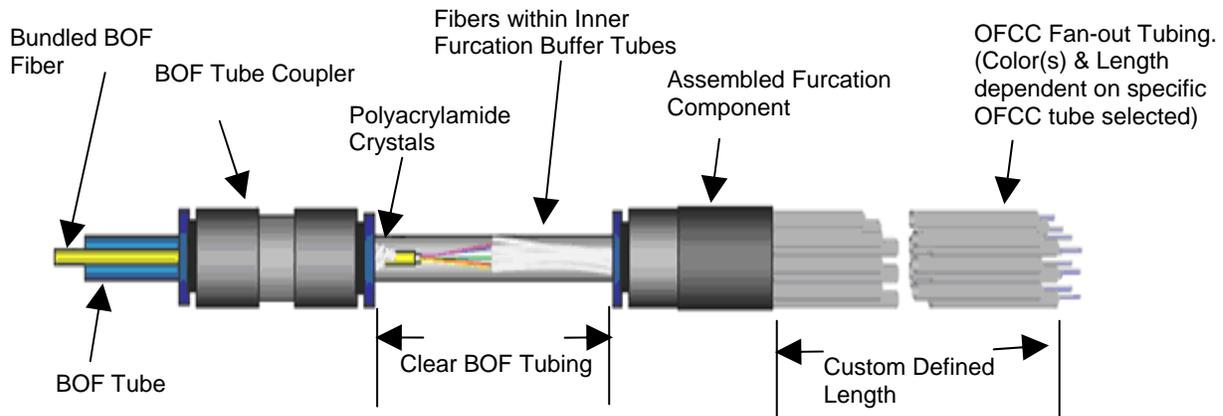

Figure 8
Step 3 – While continuing to hold the tubing up to keep the crystals at the far end, carefully insert the furcation assembly tube coupler onto the clear BOF tube and seat firmly (Figure 8). Ensure that no fibers are kinked within the tube as it is inserted into the tube coupler. Apply a light axial load of approximately 22 N (5 lbs) between the BOF tube and the furcation unit to verify coupler engagement.